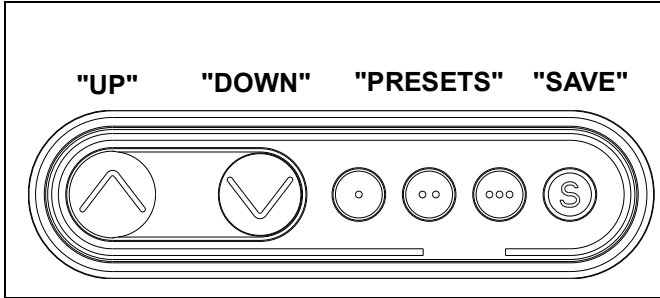

Figure 27
9. Press and hold "DOWN" button for three seconds to initialize lift mechanism. (See Figure 27)
10. Press and hold "UP" button until mount reaches its maximum height. (See Figure 27)